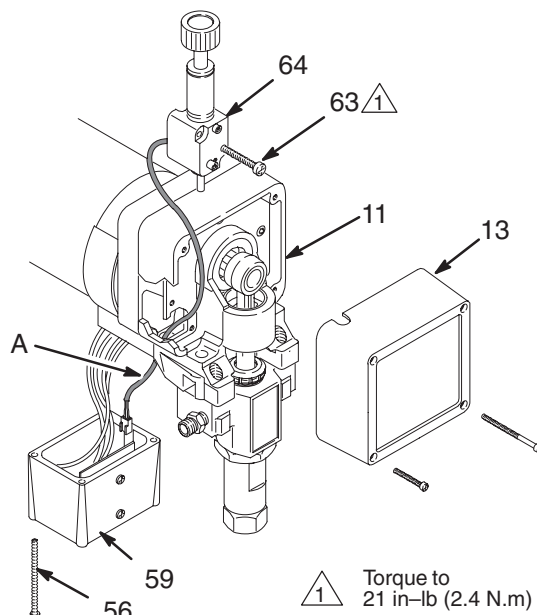

Fig. 17
**NOTE:** See Fig. 17 for this procedure.
**NOTE:** The pressure control (64) cannot be repaired or adjusted. If it has malfunctioned, replace it.
1. Remove the front cover (13). Remove the screws (56). Lower the junction box (59).
2. Disconnect the harness connector (A) from the motor start board (47).
3. Remove the screws (63). Pull forward on the pressure adjusting knob and tip the pressure control (64) forward and up to detach it from the drive housing (11).
4. Guide the harness (A) through the motor and drive housing and remove the pressure control.
6. Install the new pressure control. Tip the pressure control down and back into the drive housing (11). Do not pinch or damage the harness (A).
7. Loosely install the screws (63) and then torque them to 21 in-lb (2.4 N.m).
8. Install the front cover (13). Connect the harness (A) to the motor start board (47).